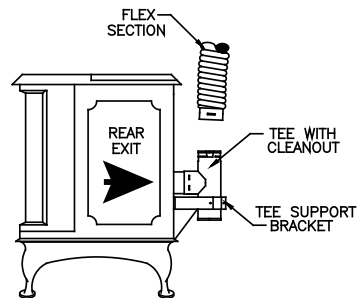

Figure 22
9. If a Tee or Tee Adapter is necessary to make the connection, as shown in (Figure 22), the Tee has a removable Clean out Adapter on its base to enable cleaning. The Tee Support Bracket to hold the Tee to the rear of the appliance is mandatory. If it is desired to mount